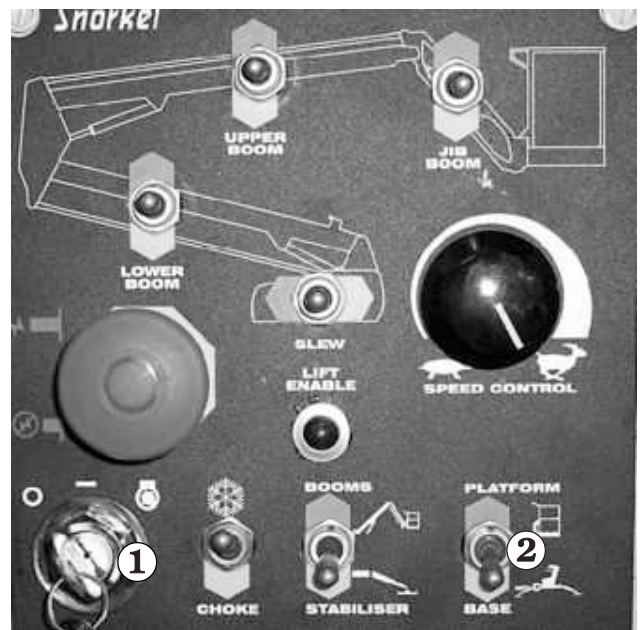

Figure 8.5
1. Insert the key **1** into the **Master Key Switch** at the ground control box and turn the key on (see Figure 8.5).
2. Set the **Platform/Ground Selector 2** (see Figure 8.5) at the ground control box to **PLATFORM**.